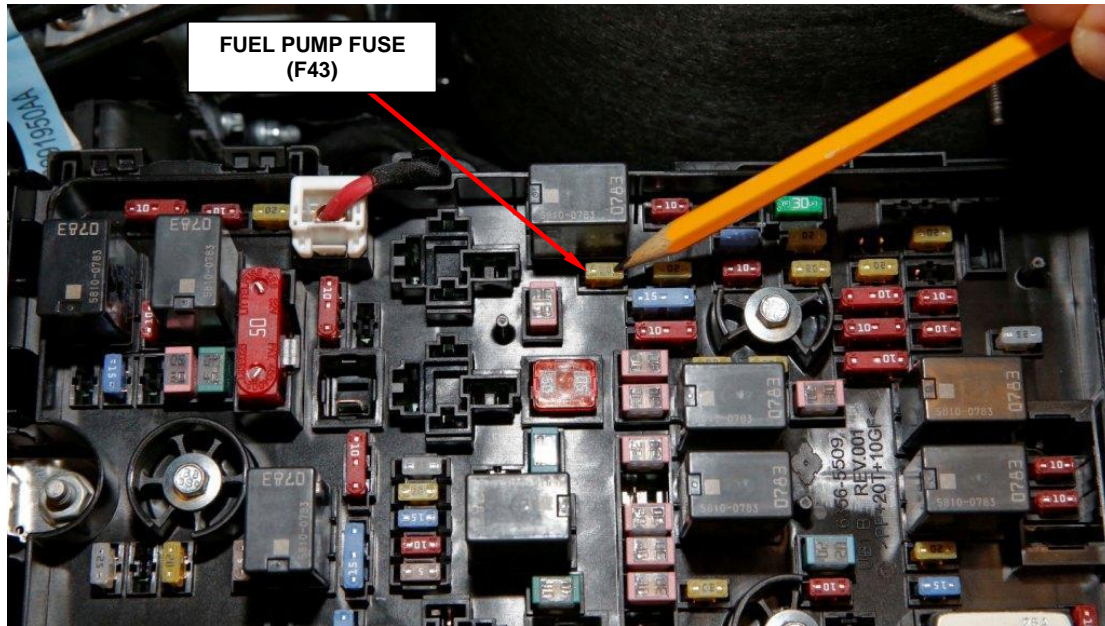

Figure 1 – PDC Fuel Pump Fuse
2. Remove the Power Distribution Center (PDC) cover and remove the fuel pump fuse identified as F43 (Figure 1).